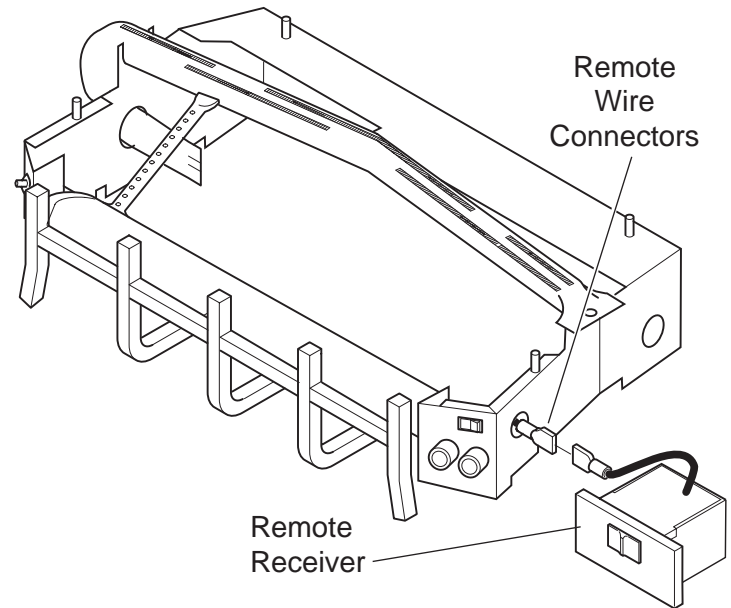

Figure 19 - Installing Remote Receiver
1. Connect the connectors to the two .25" male connectors located on the right side when facing the unit (*Figure 19*). Do not let the wire touch the grate or burners.